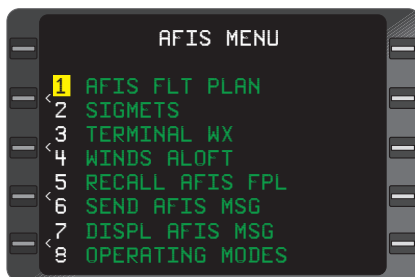

Figure 7-44
2. Line Select Key - Place cursor over menu Option 1, **AFIS FLT PLAN**. (Figure 7-44)